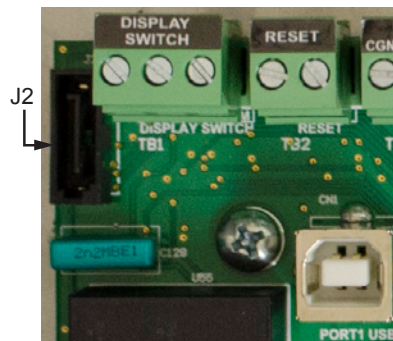

Figure E.14—Closeup of J2 connector
12. Connect the orange SATA cable to the J2 connector on the circuit board (Figure E.14).